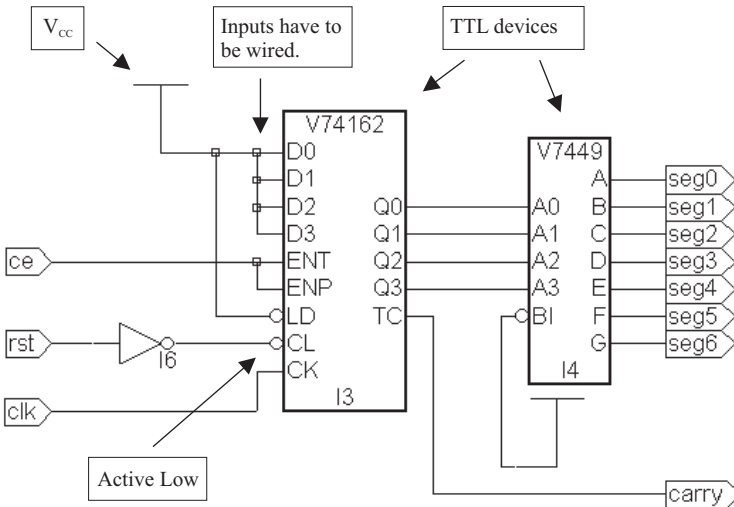

Fig. 29.2.23. TTL modules with wiring
In our exercise a BCD counter and a 7-segment decoder from the TTL library are used. Again we generate a counter with a 7-segment output. The corresponding circuit diagram is shown in Fig. 29.2.23.
- Add the required logic gates, inverters and VCC (library GATES.LIB, G_INV and VCC) to the diagram according to Fig. 29.2.23.